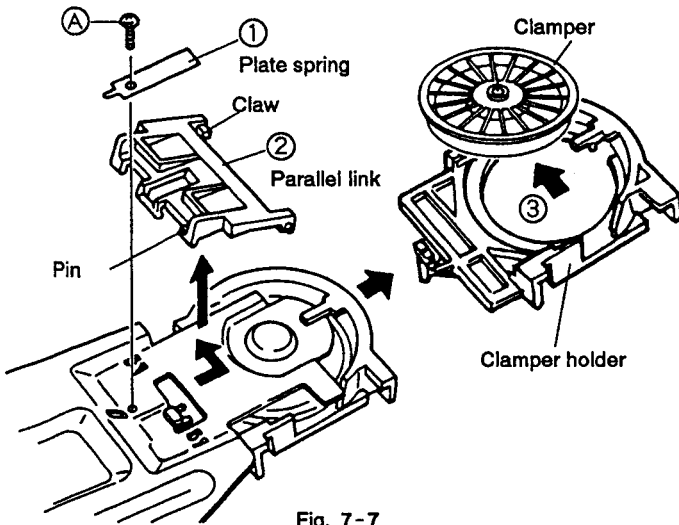

Fig. 7-7
7.5 REMOVING THE CLAMPER (Fig. 7-7)
- ① Remove the plate spring by unscrewing screw (A).
- ② Remove the parallel link by sliding it in the direction of the arrow. (Be careful not to damage the claw located on one side of the link.)
- ③ The clumper can be removed by sliding the clumper holder in the direction of the arrow.